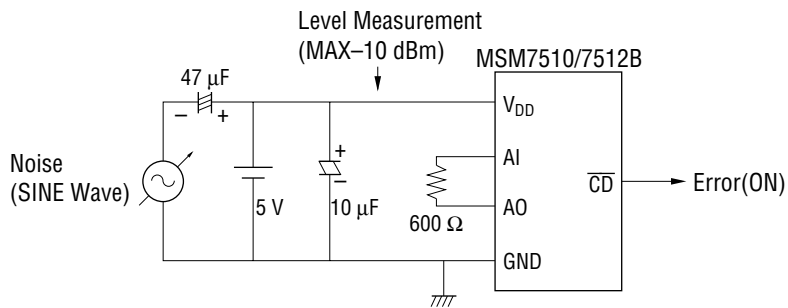

Figure 7-1 Power Noise Evaluation Circuit
Noise superimposed on the power supply (V_{DD}) affects such characteristics as the bit error rate. This is due to an internal filter that consists of a switched capacitor (SC) circuit that cannot eliminate very high frequency noise. Specifically, noise (integer multiple) passes through the internal filter as a sampling frequency of the $28\text{ kHz} \pm$ (passband) of the SC circuit. That noise is received as a modem signal. In this event, "carrier" is detected during a "no signal time". CD does not turn off, even though a "carrier off" is observed. To prevent such characteristic deterioration, suppress as much of the power supply noise as possible using bypass capacitors, etc. Figures 7-1 to 7-3 show the result of this observed event.